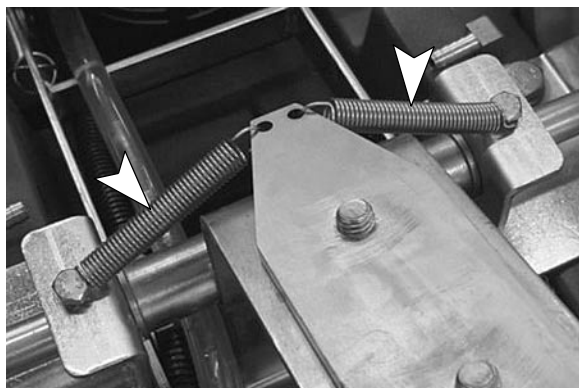

**Fig. 14**
6. Connect the large spring to the valve mounting bracket and to the squeegee pivot bracket as shown (Figure 14).